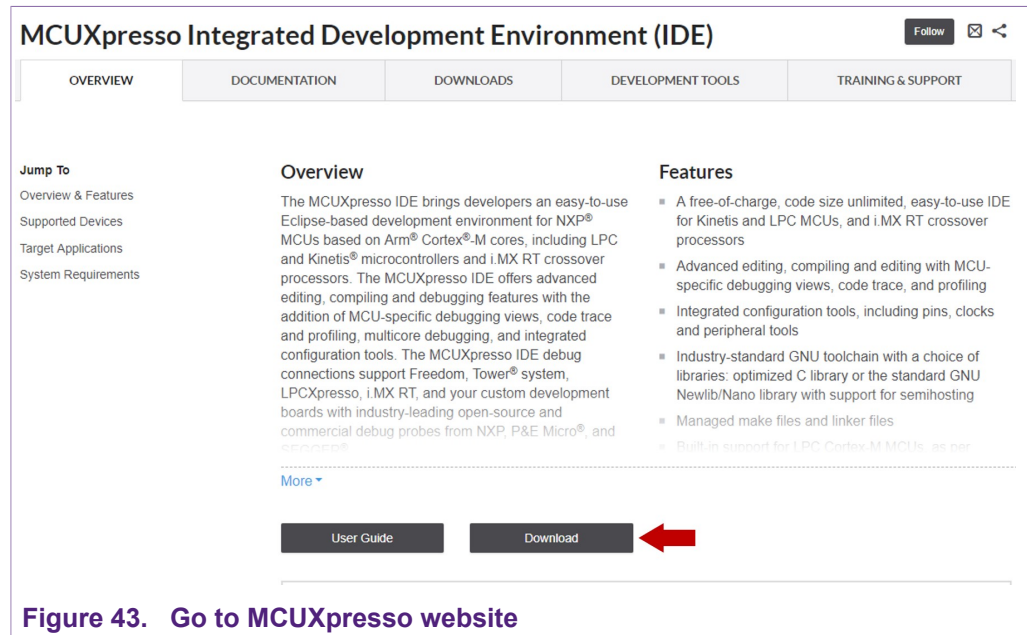

Figure 43. Go to MCUXpresso website
1. Go to MCUXpresso and click the download button as indicated in Figure 43: